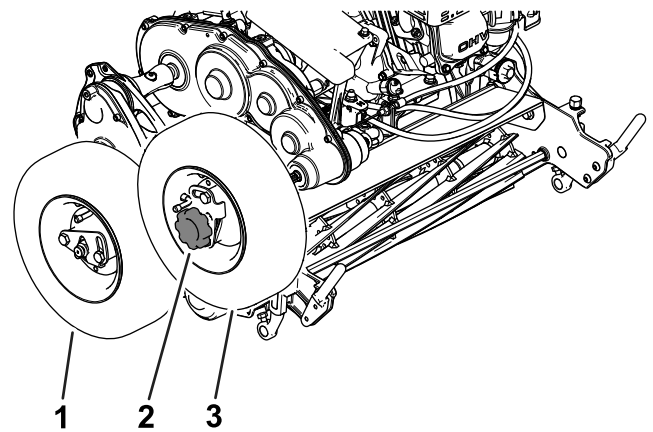

Figure 11
5. Install the knob over the wheel on the drive hub (Figure 11).
3. Install the transport wheels onto the right-wheel shaft and the drive hub; refer to Figure 11.